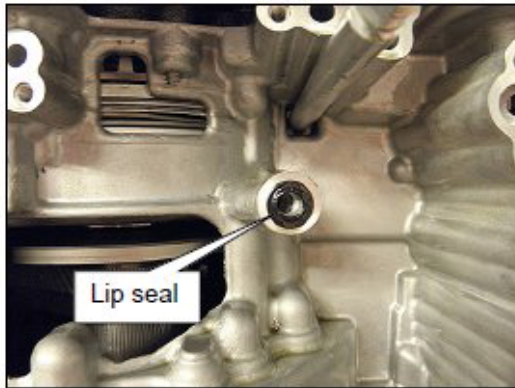

Figure 2
4. Install a new lip seal (Figure 2).